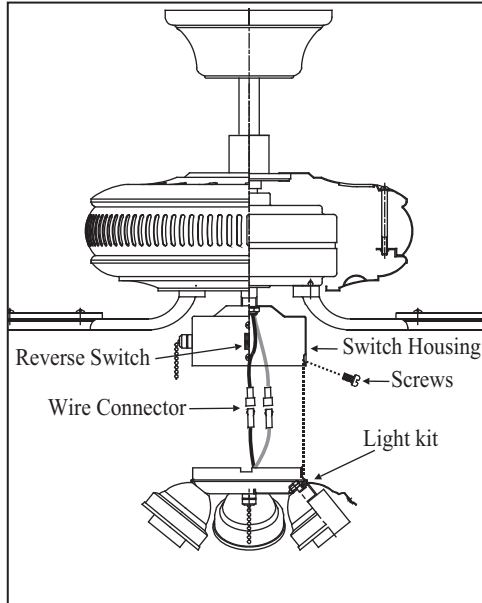

Figure 20
2. Carefully push all wires back into the switch housing. Attach the light kit fitter by aligning its keyhole slots with the three screw holes and the reverse switch on the side of the switch housing. Tighten the three screws securely to prevent the light kit from vibrating loose. (Fig. 20)